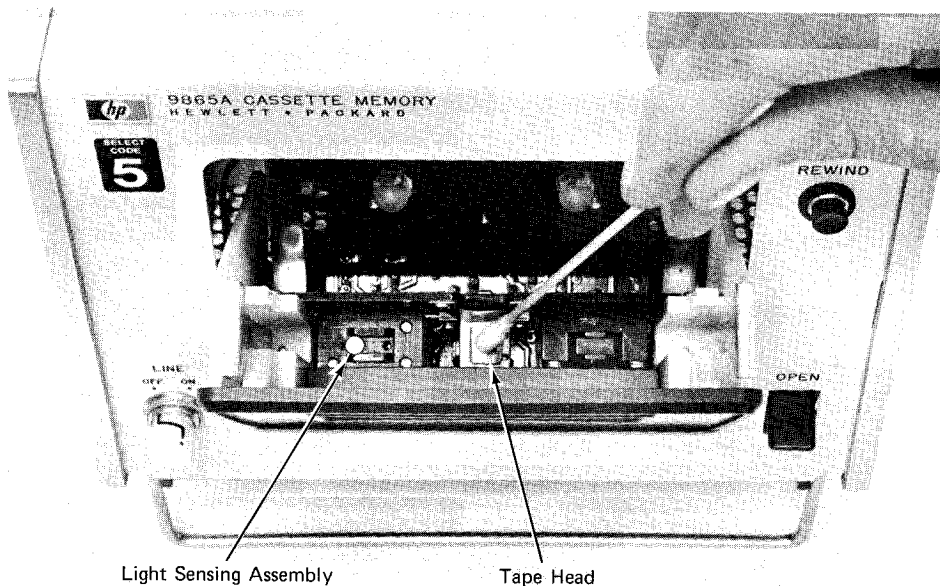

Figure 7. Cleaning the Tape Head
2. Locate the tape head (see Figure 7). Remove any dust or other foreign material that has accumulated in the vicinity of the tape head.
DO NOT ALLOW THE CLEANING SOLUTION TO TOUCH THE TAPE-TRANSPORT DOOR OR THE LIGHT-SENSING ASSEMBLY (SEE FIGURE 7).